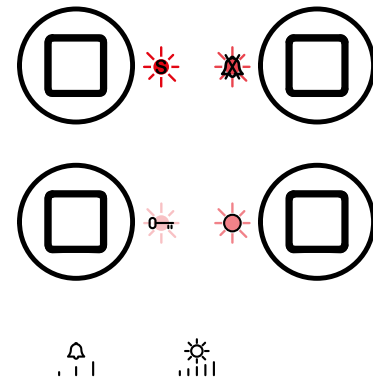

Fig. 65 Monitor in boot mode
- The videophone goes in boot mode recognized by the four LEDs flashing alternatively (Fig. 65).